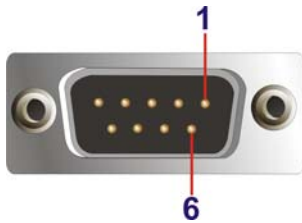

Figure 3-37: RS-232/422/485 Serial Port
- CN Pinouts:** See **Table 3-8** and **Figure 3-37**